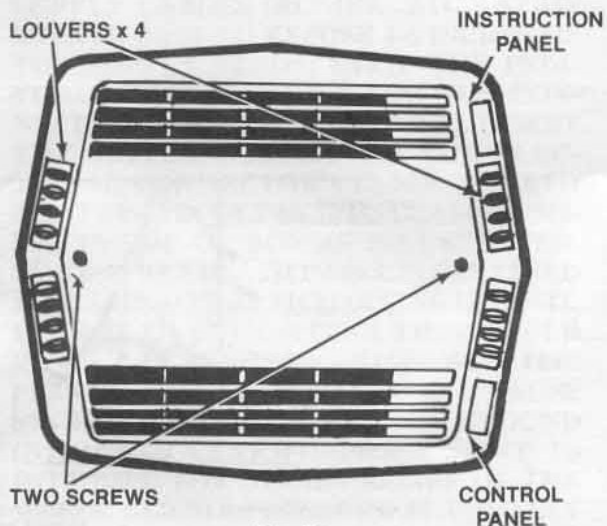

Fig. 16
3. Remove the two screws that secure the ceiling assembly shroud to the ceiling assembly. See Figure 16.